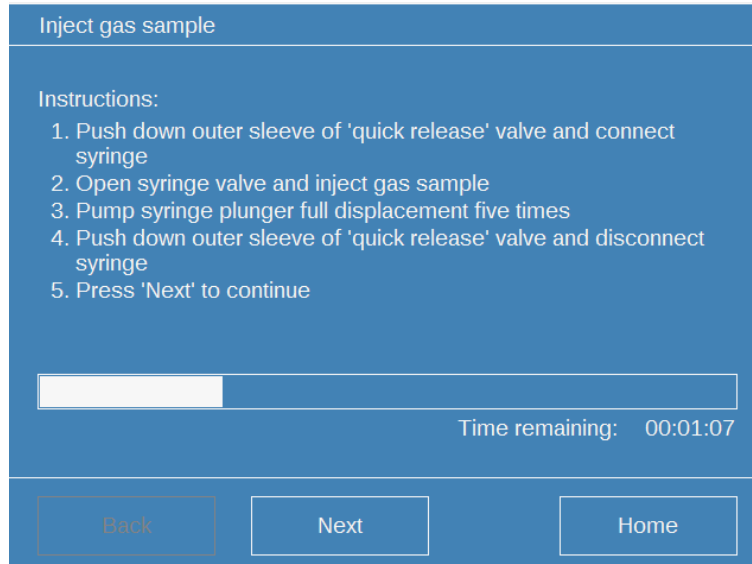

Figure 9-7: New Measurement > Sample Injection - instructions & countdown
- When prompted onscreen to inject the gas sample as shown in Figure 9-7, connect the syringe containing the sample gas to the sample bottle via the quick-connect fitting (similar to injecting an oil sample as described in Section 7.3.3).